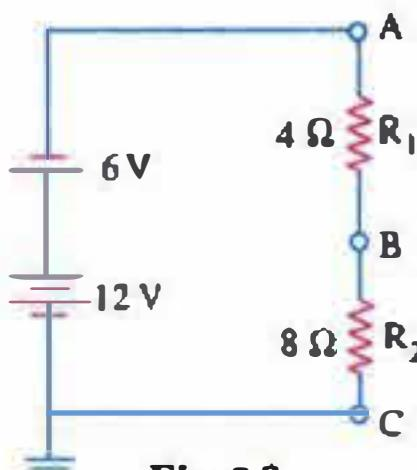

Fig. 2.9
**Example 2.3.** With reference to the circuit of Fig. 2.9, compute